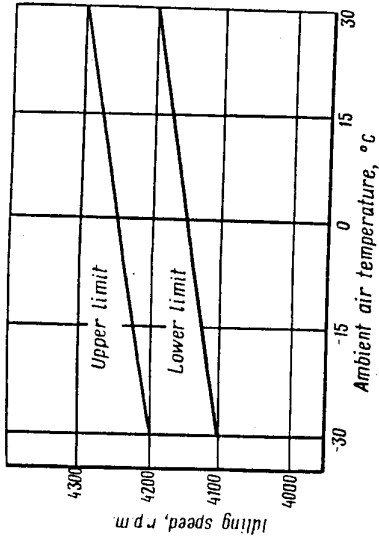

Fig. 5. Graph Showing Dependence of Idling Speed on Ambient Air Temperature
Idling speed of the engine changes depending on the ambient air temperature, and should be maintained within the limits indicated in Table 2 and Fig. 5.
1. If the ambient air temperature rises in excess of +30°C or drops below -30°C, the engine speed graph (See Fig. 5) should be continued in a straight line to either direction.
2. Turn the thumb-piece to adjust idling speed within the limits indicated in Table 2 and in Fig.5. When the thumb-piece is turned in the clockwise direction, engine speed is increased, while turning of the thumb-piece in the counter-clockwise direction causes engine speed to decrease. Turning of the thumb-piece by one click (in either direction) causes engine speed to change by approximately 15-25 r.p.m.